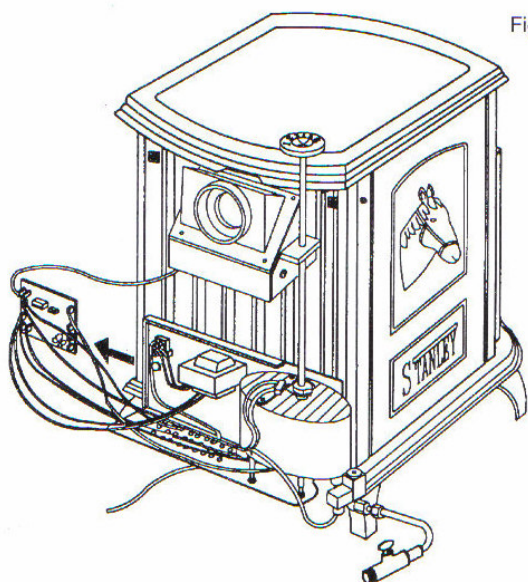

Fig.50
3. Taking care not to damage any connections to the board, take the board out to the side of the stove so that the faulty component can be unplugged. See fig.50